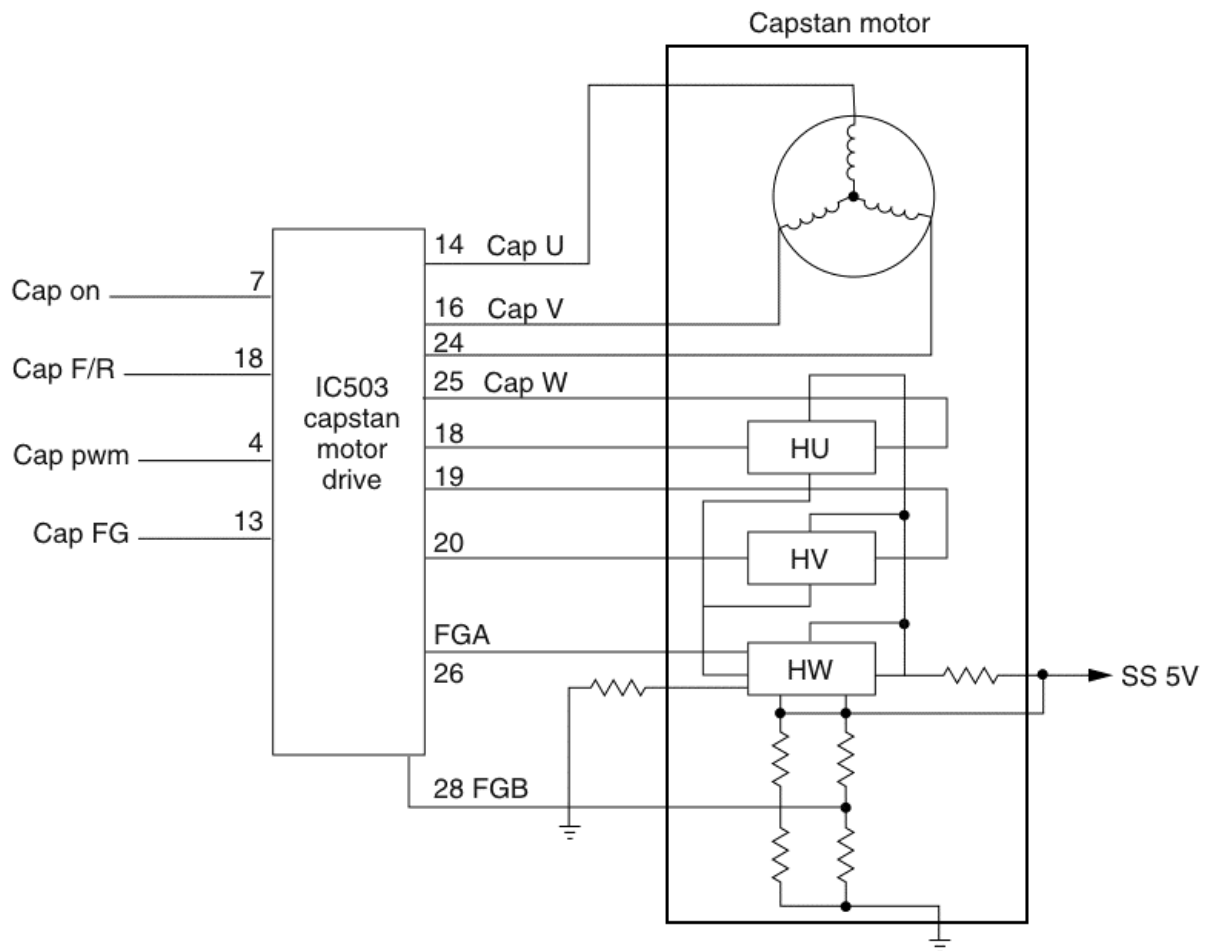

FIGURE 36-28 The Samsung 8-mm capstan motor circuits.
Samsung capstan motor circuits The Samsung 8-mm capstan servo circuits consist of controlling Mi-Com IC601, IC501, capstan PWM, IC503 capstan motor-drive/control IC, and capstan three-phase motor with Hall ICs and FGA and FGB control signals. The capstan On is found at terminal 100 of IC601 and fed to terminal 7 of the capstan motor drive IC503 (Fig. 36-28). A CAP (F) forward and (R) reverse is taken from pin 99 and applied to terminal 18 of IC503. The capstan CAP PWM signal is fed through IC501 with a capstan error applied to pin 8 of IC901. The output of the capstan PWM is fed to pin 4 of IC503.